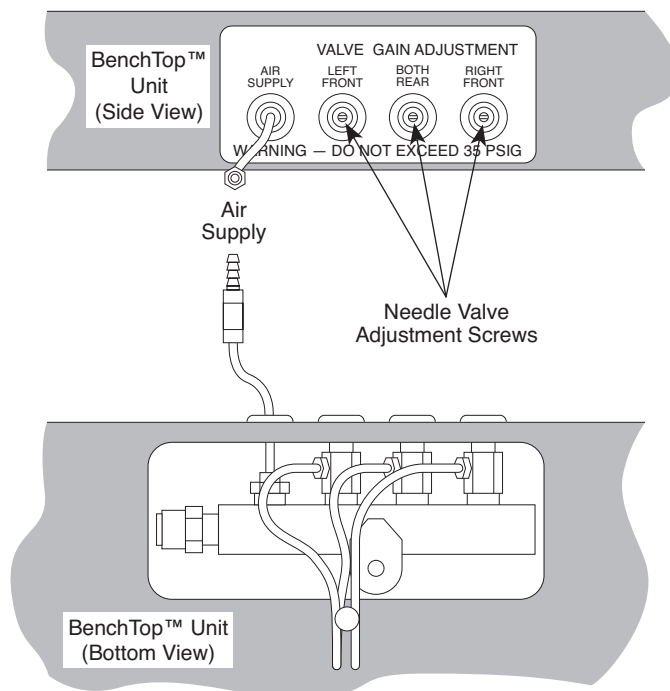

Figure 3
- If the BenchTop oscillates quickly, reduce the supply air pressure. If it oscillates slowly the center of gravity of your payload may be too high. If changing these conditions does not stop the oscillation, close the valves all the way and then open two front valves 1/8 turn counterclockwise and the "Both Rear" valve 1/4 turn counterclockwise (Figure 3). If the system still oscillates, close the valves incrementally until the oscillation stops.